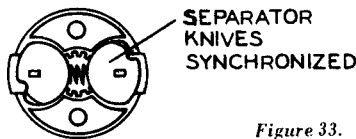
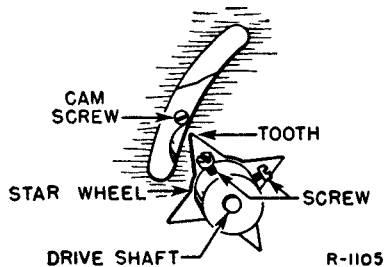

Figure 33.
Figure 34—Star Wheel Timing.
1. Turn the star wheel so that the separator knives are in the position indicated in Figure 33 for rotating gear type of separators or fully retracted for push-out separators.
2. Loosen the two set screws (61) sufficiently to permit the star wheel to rotate without disturbing the shaft (7).
3. Rotate the star wheel points directly to a cam screw or nose screw (visible through slot) as shown in Figure 34.
4. Tighten the two set screws (61) and rotate the mechanism through a complete cycle to check operation. The separator knives must rotate 360° to the starting position as indicated in Figure 33.